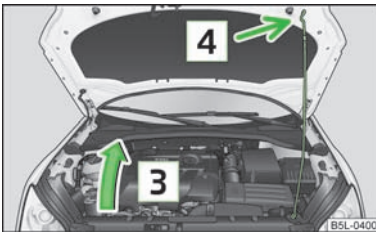

Fig. 142
- Take the bonnet support out of its holder in direction of arrow **3** and secure the opened bonnet by inserting the end of the support in the opening **4** designed for it » Fig. 142.